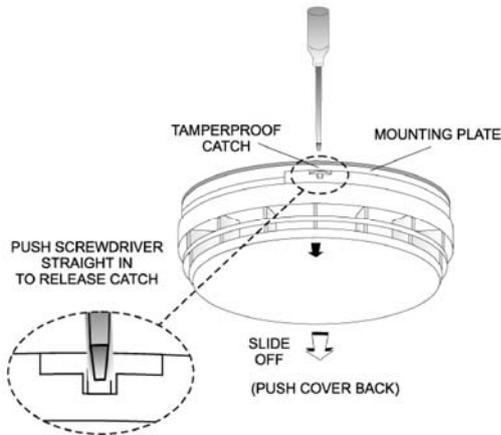

Figure B- 18: Removing the Smoke Alarm from the Mounting Plate
1. Remove the mounting plate from the Smoke Alarm. If it has been latched release the tamperproof catch with a small screwdriver, as shown in Figure B- 18, and slide the alarm from the mounting plate.